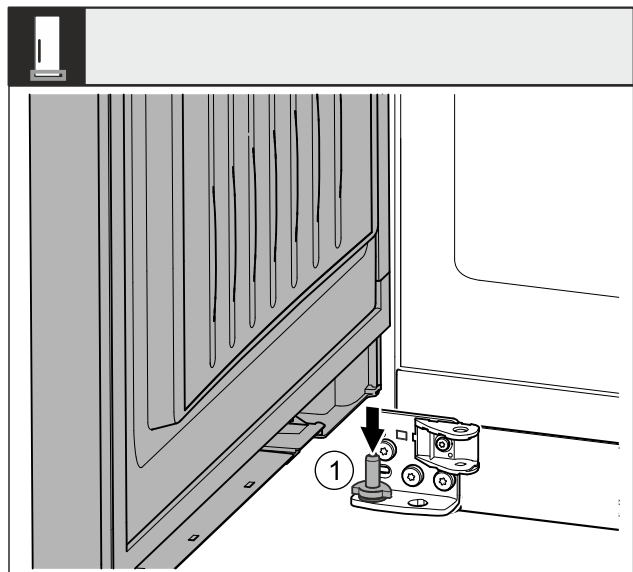

Fig. 43 \*
- Lower the door onto the bottom bearing bolt Fig. 43 (1)\*